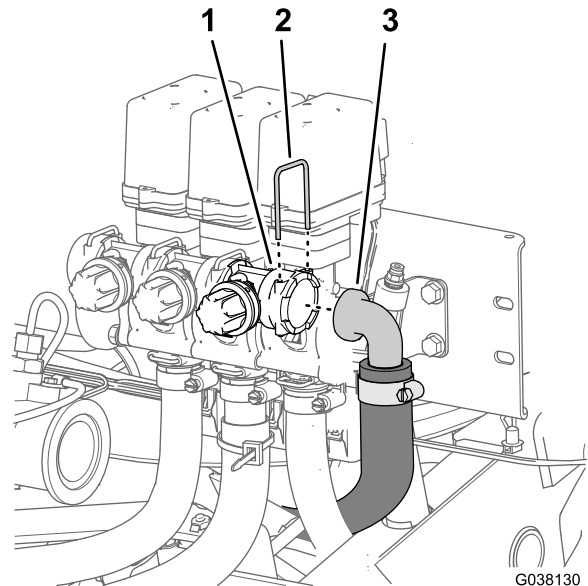

Figure 17
1. Remove the retainer that secures the 90° barbed fitting of the bypass hose from the socket fitting of the bypass valve at the right boom section valve (Figure 17).
2. Remove the bypass hose from the bypass valve (Figure 17).